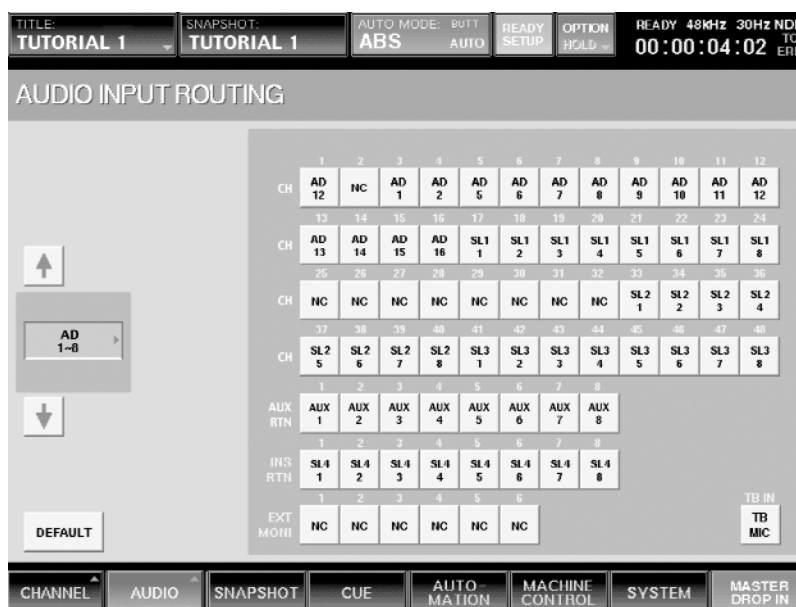

Figure 3
- 8 In the Input Routing window, assign AD12 (the microphone input) to channel 1. Then assign AD1 (the left side of the stereo source signal) to channel 3, and AD2 (the right side of the stereo source signal) to channel 4. Finally, assign Slot 1, tracks 1 - 8, to channels 17 - 24. Then assign NC (No Connect) from the MISC Source menu to channel 2 and to channels 25 - 32; this is to eliminate duplicate (multed) routings of AD2 and Slot 1, tracks 1 - 8. The Input Routing window should now look like this: (See Figure 3)